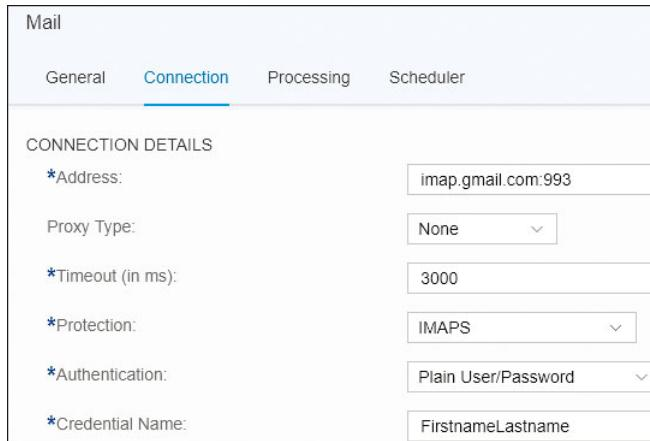

Figure 10.42 Connection Tab of the Mail Sender Adapter
5. For **Address**, enter the host name of your email provider, followed by the port. Remember that for the mail sender adapter, when using the IMAP4 protocol, only ports 143 or 993 are allowed. We propose to use the same settings as shown in Figure 10.42; in particular, for the **Authentication** option, choose **Plain User/Password** and specify a credential name (in the example, "FirstnameLastname" as already used in the integration flow in Chapter 2, Section 2.3). We've also shown in Chapter 2, Section 2.3.5, how to create the corresponding **User Credentials** artifact, which contains the user name and password for the email account.
Figure 10.42 shows the settings when using Gmail.